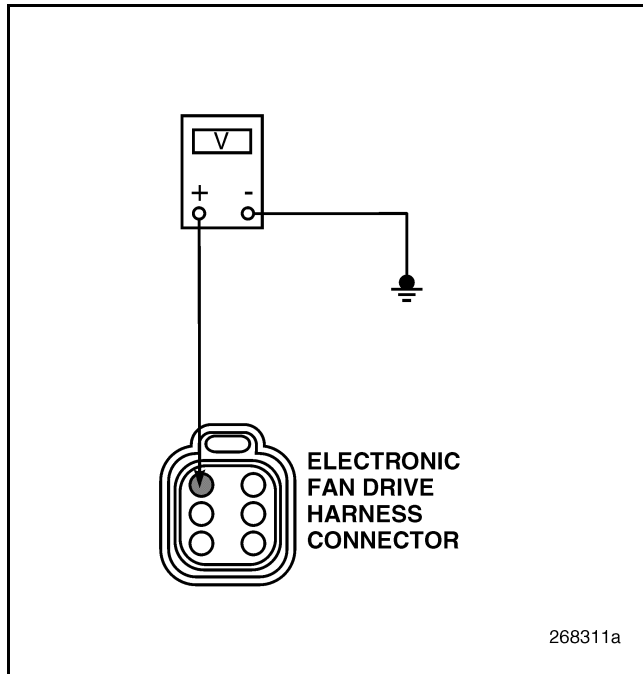

Figure 118
5. Measure the voltage between electronic fan drive harness connector pin 1 and a good ground (see Figure 118).